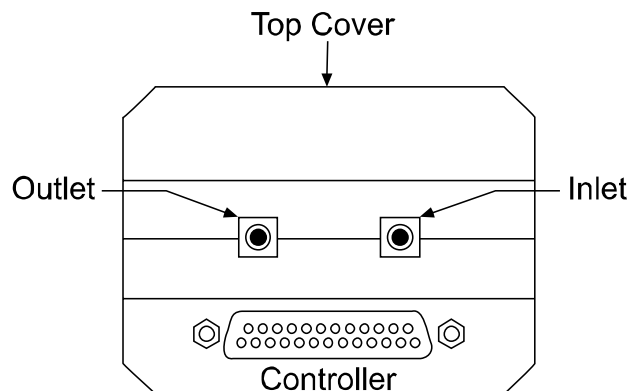

Figure 7. Coolant Ports
**Note:** Figure 7 shows the correct coolant ports for the incoming and outgoing coolant. These ports are ***NOT INTERCHANGEABLE***.